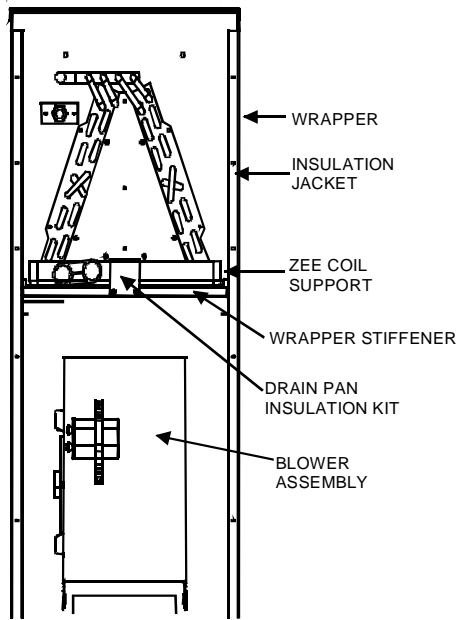

Figure 7
To complete the conversion, slide the evaporator coil into the chassis and attach the three (3) access panels. (**Figure 7**).